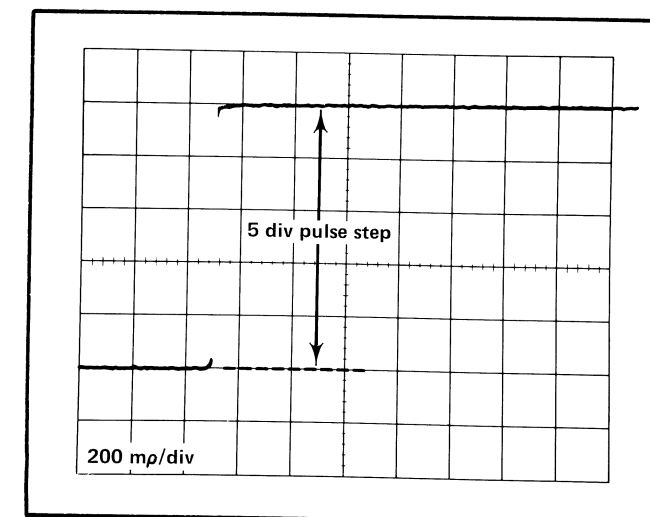

Fig. 6-16. Waveform showing the correct step amplitude for the ρCAL control adjustment (Step 13).
d. Adjust the ρ CAL control (screwdriver adjust) for a five division step amplitude. See Fig. 6-16 for this waveform.